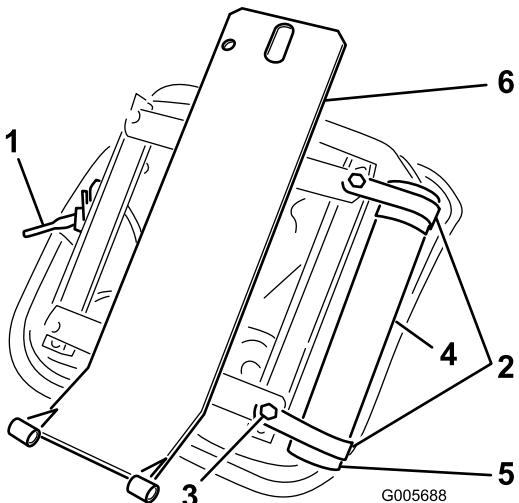

Figure 12
1. Mount seat suspension assembly to 4 capscrews on seat bottom and secure with 4 lock washers, flat washers, and nuts (Figure 12).
2. Loosely secure 2 R-clamps to right side of seat bottom with 2 capscrews and flat washers supplied in kit (Figure 12). Install manual tube into R-clamps and tighten capscrews (Figure 12).
3. Mount seat support over four threaded studs at the bottom of seat suspension assembly and secure in place with flange nuts (Figure 12).